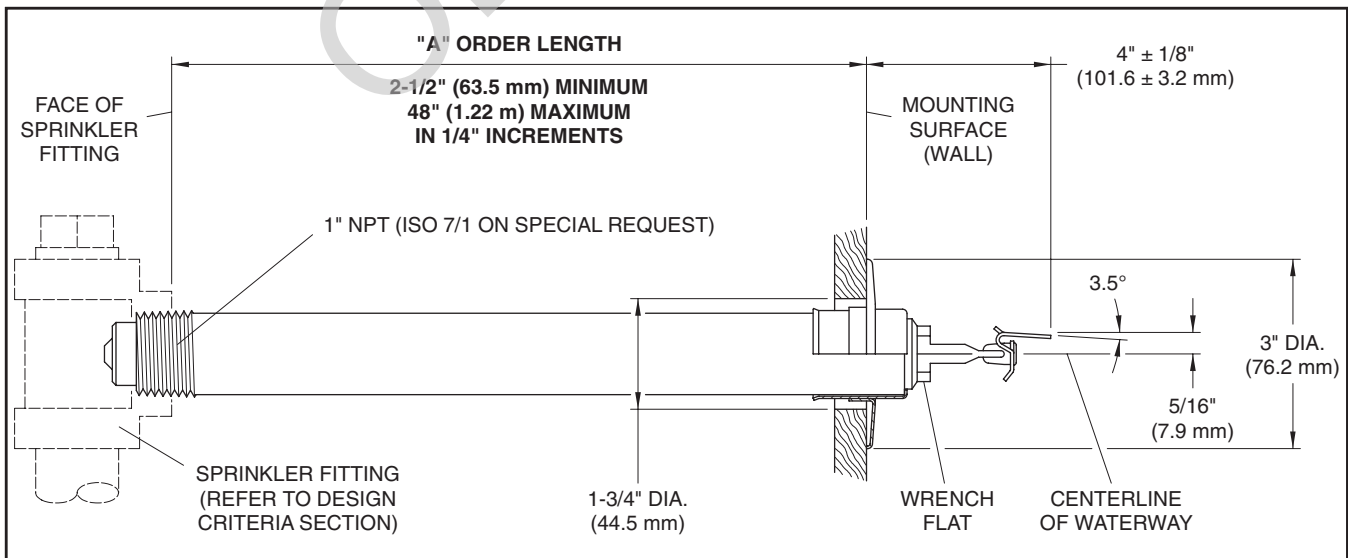
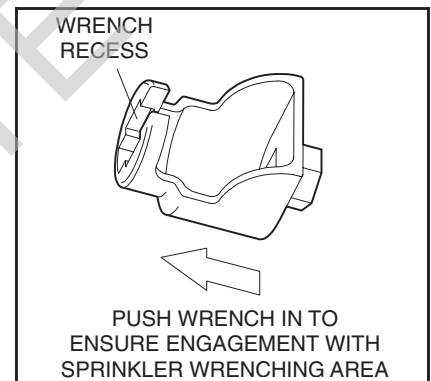

Figure 1
Figure 3
4. To meet the requirement of a deflector-to-ceiling distance of 4 to 12 inches, the centerline of the sprinkler waterway shown in Figure 1 must be 4-5/16 to 12-5/16 inches below the ceiling.
The Model S176 Dry Sprinklers are to be installed in the 1 inch NPT outlet of a malleable iron threaded tee fitting per ANSI B16.3 or cast iron threaded tee fitting per ANSI B16.4 with the end sprinkler fitting on a branch line to be plugged as shown in Figure 1.
Step 3. Wrench tighten the sprinkler by wrenching on the Casing with a pipe wrench whenever the casing is readily accessible. Otherwise, use a W-Type 7 Sprinkler Wrench (Ref. Figure 3). The wrench recess of the W-Type 7 is to be applied to the sprinkler wrench flats (Ref. Figure 1).